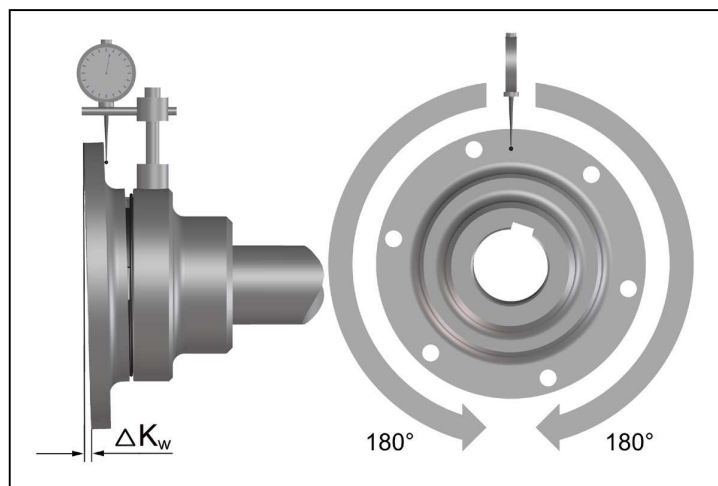

Fig. 7
- Measure on the face of the external diameter a complete rotation (360°). Determine in this case the greatest deviation ΔK_{w1} as well as the smallest deviation ΔK_{w2} (Figure 7).